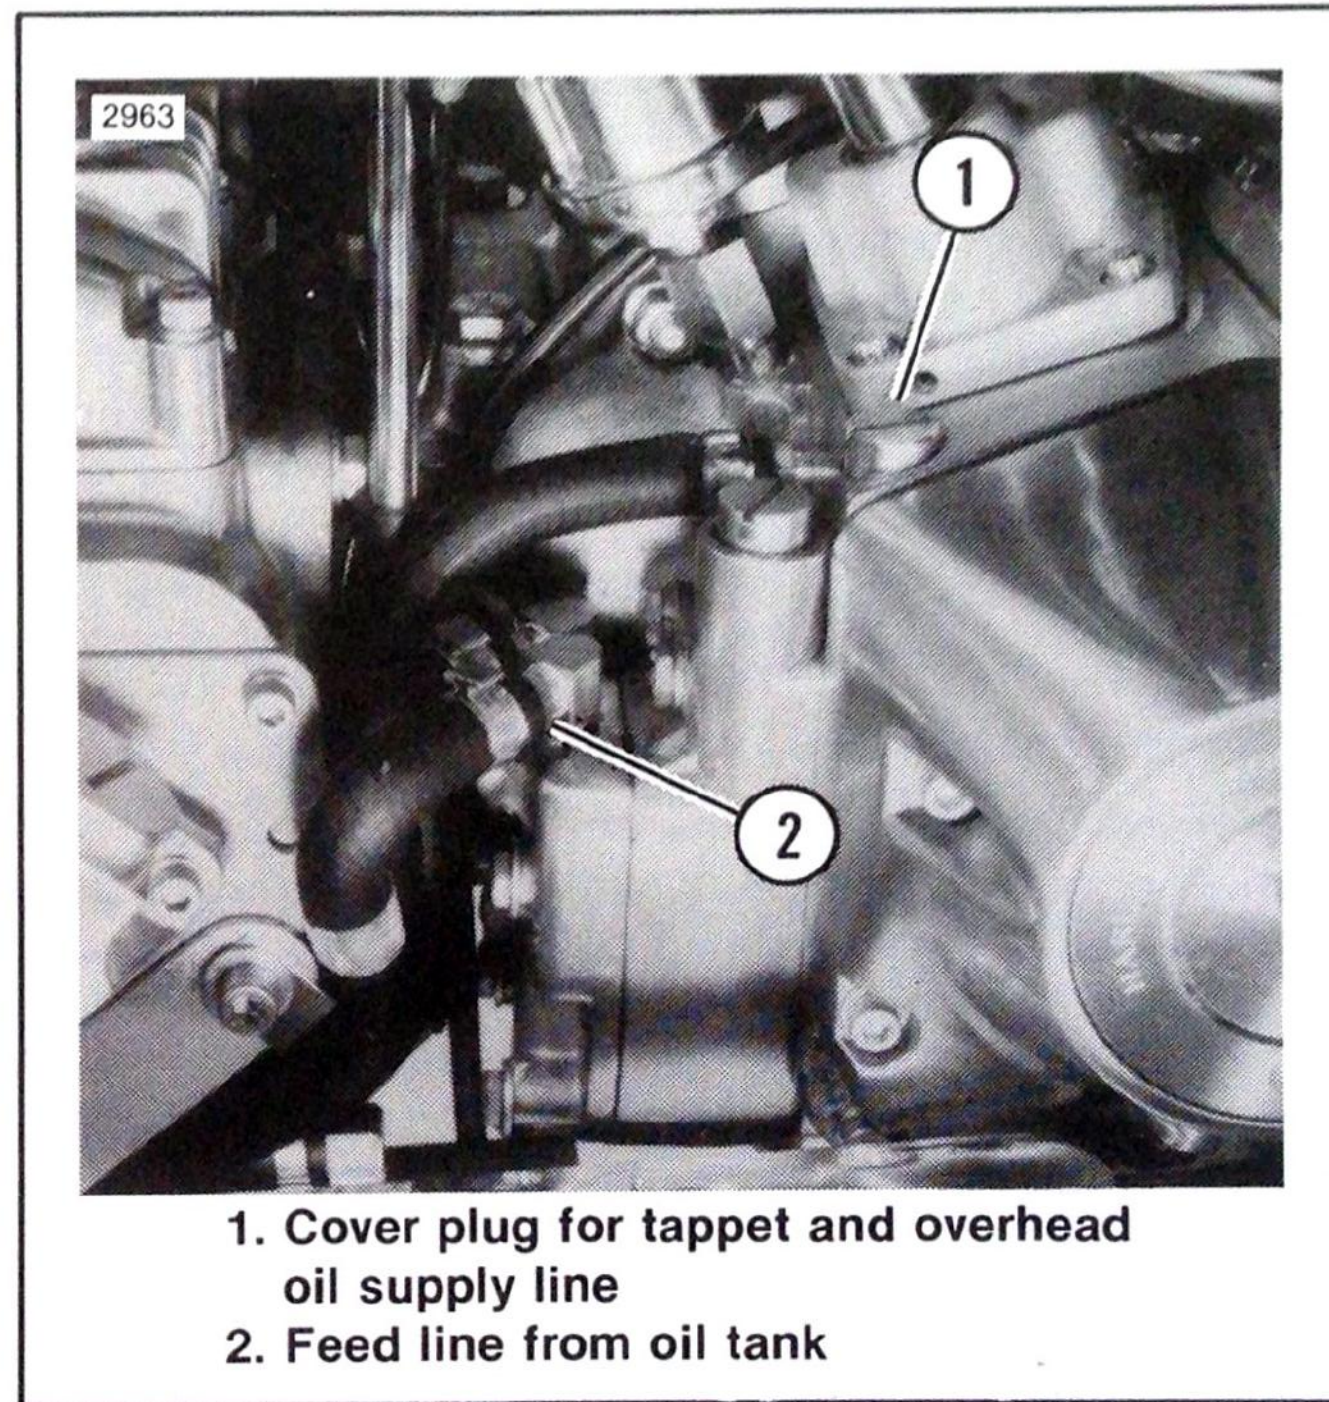

Figure 32. Tappet Oil Filter Screen
See Figure 32. Overhead and tappet oil filter screen (1) is located in crankcase above the oil pump. Unscrew slotted plug, remove and clean or replace screen. Closed end of screen faces up.